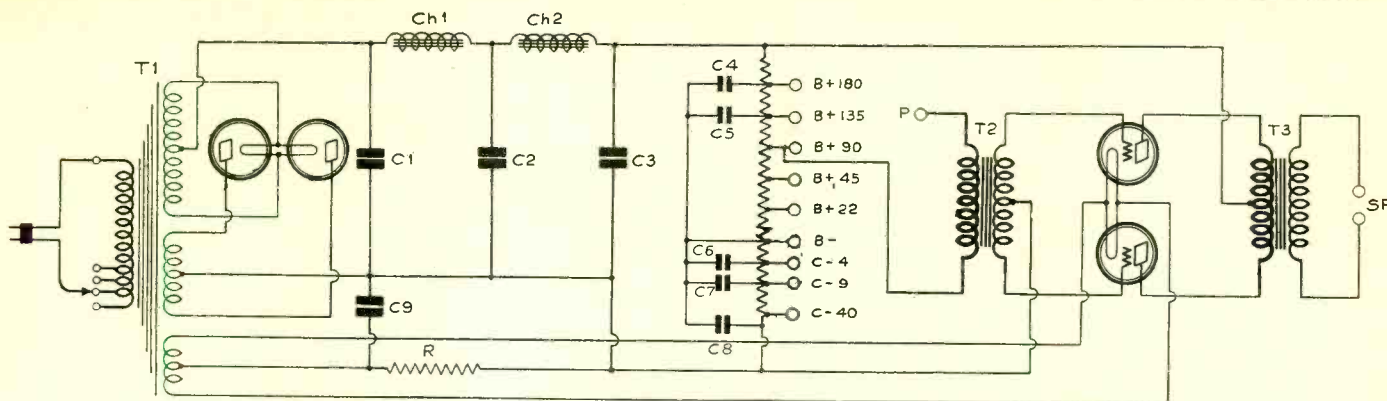

FIG. 749
(1)—The pictorial diagram is correct. The other is correct as to the circuit but is wrong in that a single full-wave rectifier, instead of two half-wave rectifiers, is used. See Fig. 749 for schematic showing the two rectifier tubes.